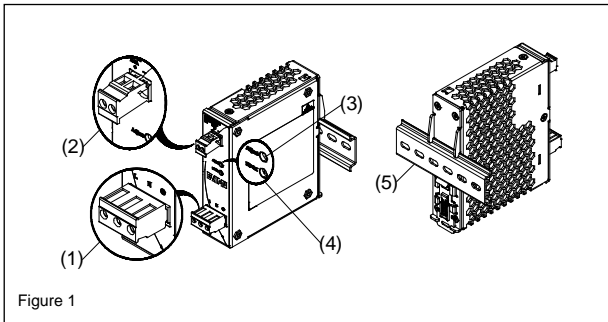
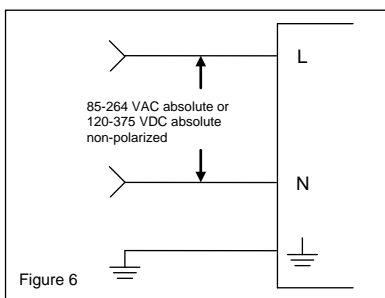

Figure 1
Figure 6
#### 2. Device description (Fig. 1)
#### 5.1. Input connection (Fig. 1 (1), Fig. 6)
Use L, N and PE connections of input terminal connector (see Fig. 1 (1)) to establish the 100-240 VAC connection.
#### 5.2. Output connection (Fig. 1 (2))
Use the "+" and "-" screw connections to establish the 24 VDC connection. The output provides 24 VDC. The output voltage can be adjusted from 24 to 28 VDC on the potentiometer. The green LED DC OK displays correct function of the output (Fig. 1 (4)). The device has a short circuit and overload protection and an overvoltage protection limited to 35 VDC.